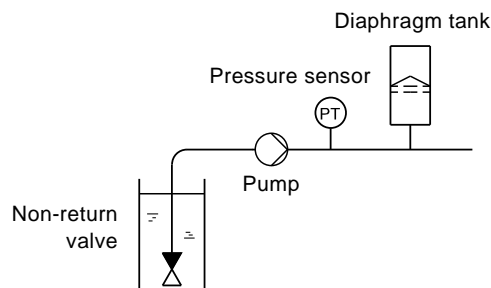
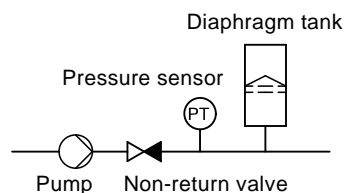

Fig. 29 Position of the non-return valve and pressure sensor in system with suction lift operation
Fig. 30 Position of the non-return valve and pressure sensor in system with positive inlet pressure
**The non-return valve must always be installed before the pressure sensor. See fig. 29 and fig. 30.**